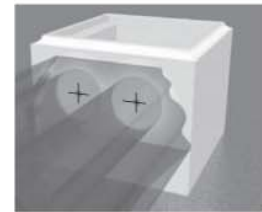

FIGURE 4B
B) Transfer the measurements onto the NEWEL POST BOTTOM SECTION that will come in contact with the BALUSTER BOTTOM RAIL (FIG. 4B), and drill 1/2" holes, which are oversize, in the NEWEL POST BOTTOM SECTION.